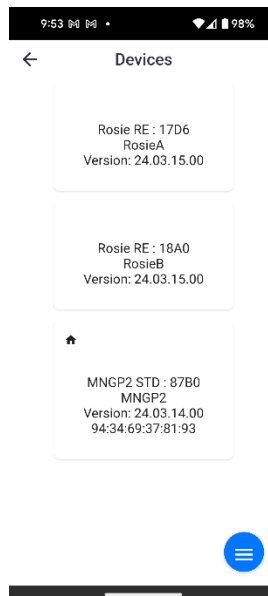

Figure 19
7. The app will connect to the MNGP2 and display a list of all devices that are connected to it **Figure 19**.